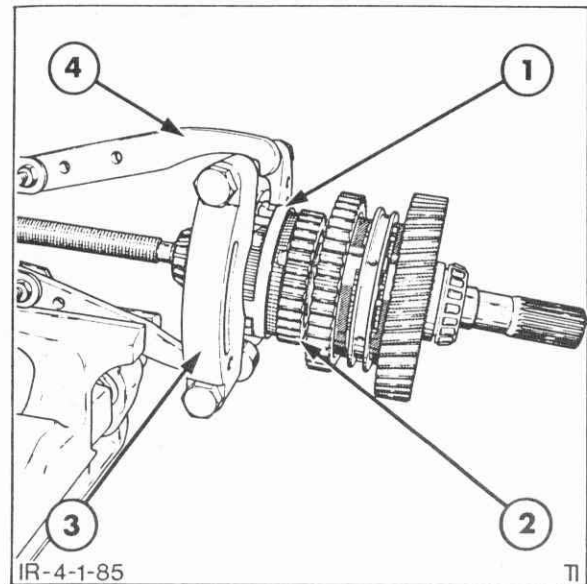

Figure 4-84
1. Engage the 3rd/4th gear synchronizer assembly to the 3rd gear as shown in Figure 4-84.
2. Attach a puller, Tool #1003 or FNH09516 with shaft protector Tool #625A or FNH09212 and the bearing clamp Tool #952 or FNH09526, to the outer cone of the 3rd/4th gear synchronizer and remove the front bearing, thrust washer, 4th gear and the synchronizer assembly as shown in Figure 4-84.